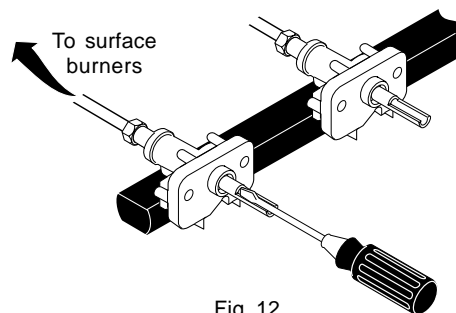

Fig. 12
- Insert a thin-bladed screwdriver into the hollow valve stem and engage the slotted screw inside. Flame size can be increased or decreased with the turn of the screw. Turn counterclockwise to increase flame size. Turn clockwise to decrease flame size. (See Figs. 12 & 13).